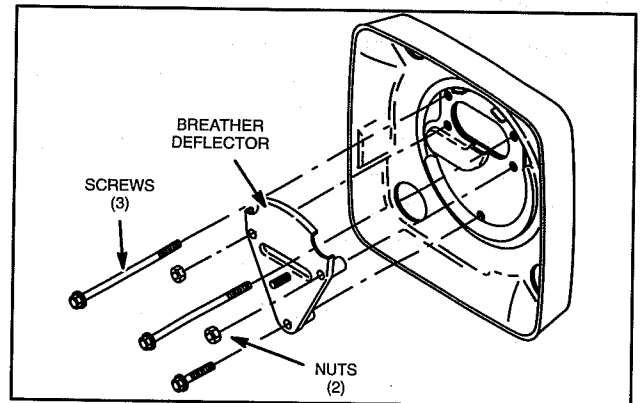

Fig. 69 – Install Air Cleaner Base
1. Install new air cleaner mounting gasket with adhesive side toward air cleaner base, Fig. 69.